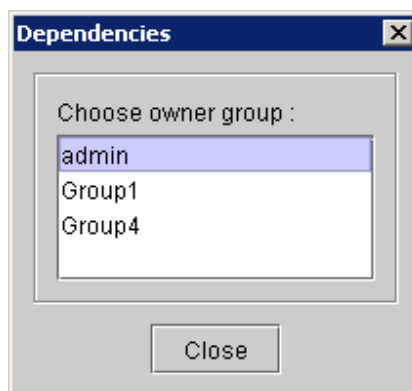

Figure 107 : Selection of the owner group
- Click on the button **Dependencies** and select in the groups list which belongs the user (Figure 107), the owner group on which must belong the family created. Click on the **Close** button to validate the selection.